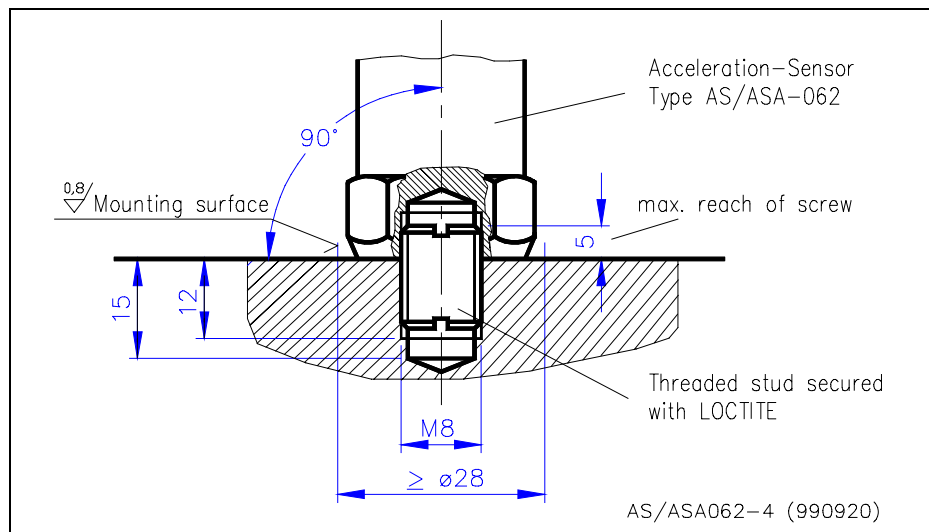

Fig. 4 Mounting
- ◆ Screw the M8, resp. 1/4", stud into the mounting surface in accordance with Fig. 4 and secure it with adhesive, e.g. LOCTITE 243 medium strength, or LOCTITE 270 high strength